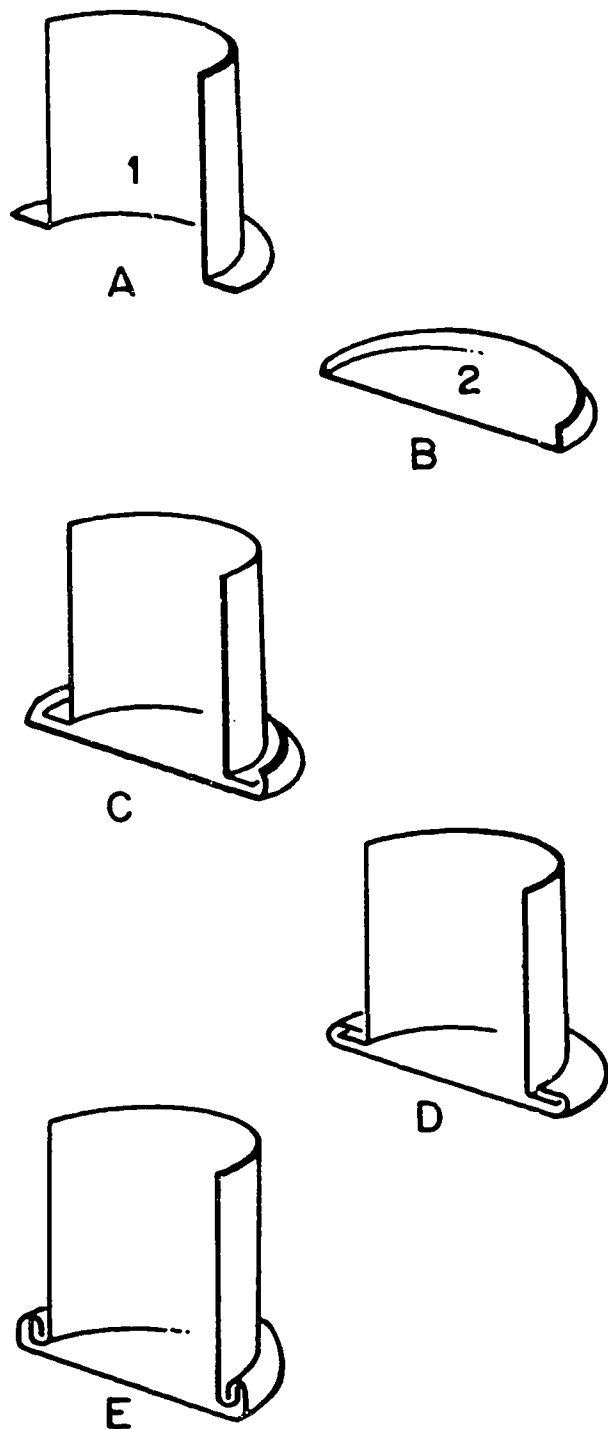

Figure 2-8. Making a bottom double seam for cylindrically shaped articles.
**Bottom double seam.** A bottom double seam, like the one shown in figure 2-8, is used to fasten a bottom or end on a cylinder. The illustration shows cutaway views so that you can see the shape of the seam as it is made. As we have already mentioned, the seam allowance for a bottom double seam is three times the width of the seam plus twice the metal thickness.
Now let's see how the 1/4-inch bottom double seam shown in figure 2-8 is made. The cylinder is identified as piece 1 in step A, and the bottom is identified as piece 2 in step B. These two pieces are the starting parts for the seam. Using the formula  $3W + 2T$ , the seam allowance is 1/4 inch for piece 1. Piece 2 is  $1/2 + 1/16$  or 9/16 inch. You use a burring machine, which you studied in Volume 2, to turn 1/4 inch 90° flanges on both pieces. In step C, you place the bottom on the cylinder. In step D, you turn down the flanged edge of piece 2 with a tinner's setting hammer or mallet. You can further tighten this edge with a setting down machine. To complete the seam, as shown in step E, use a mallet and double seaming stake. The bottom double seam is now complete, unless you must make it liquid-tight by soldering.
**Dovetail Seam.** A dovetail seam, illustrated in figure 2-8, is often used to connect cylinder-shaped ducts or pipes to flat surfaces, such as the base of a roof jack. View A in the illustration shows how 1/2-inch square tabs have been cut and every other one bent down 90° with a tinner's hammer and bench stake. This bending operation can also be performed with a pair of common pliers. A hole the size of the cylinder is cut in the flat piece of metal that is to be the base. The base is then placed over the cylinder, as shown in view B. The remaining tabs are bent 90°. As this row of tabs is turned down, the blows from the hammer cause both rows of tabs to tighten against the flat base.